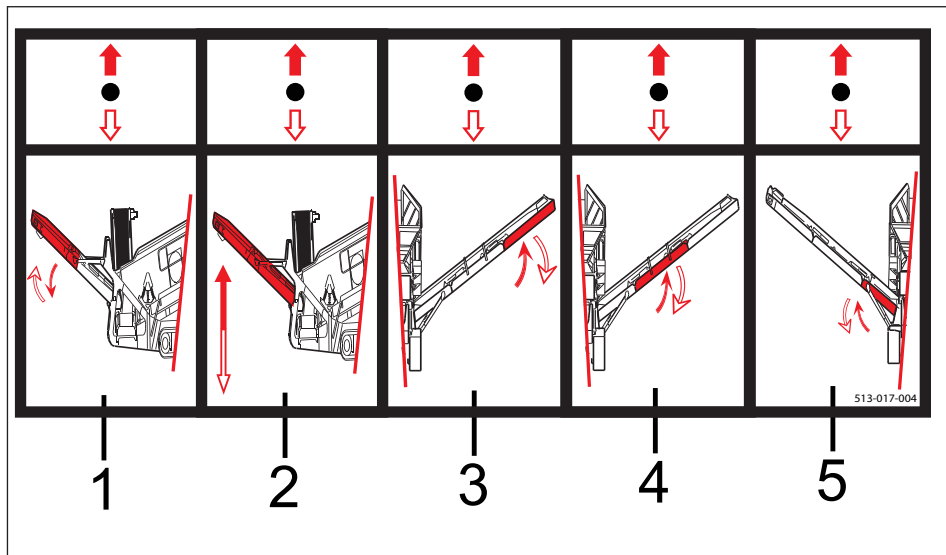

Figure 4.80 - LHS Control Bank Decal
9. Use Lever 4 (Reference: Figure 4.80) to fold out the bottom section of the conveyor.